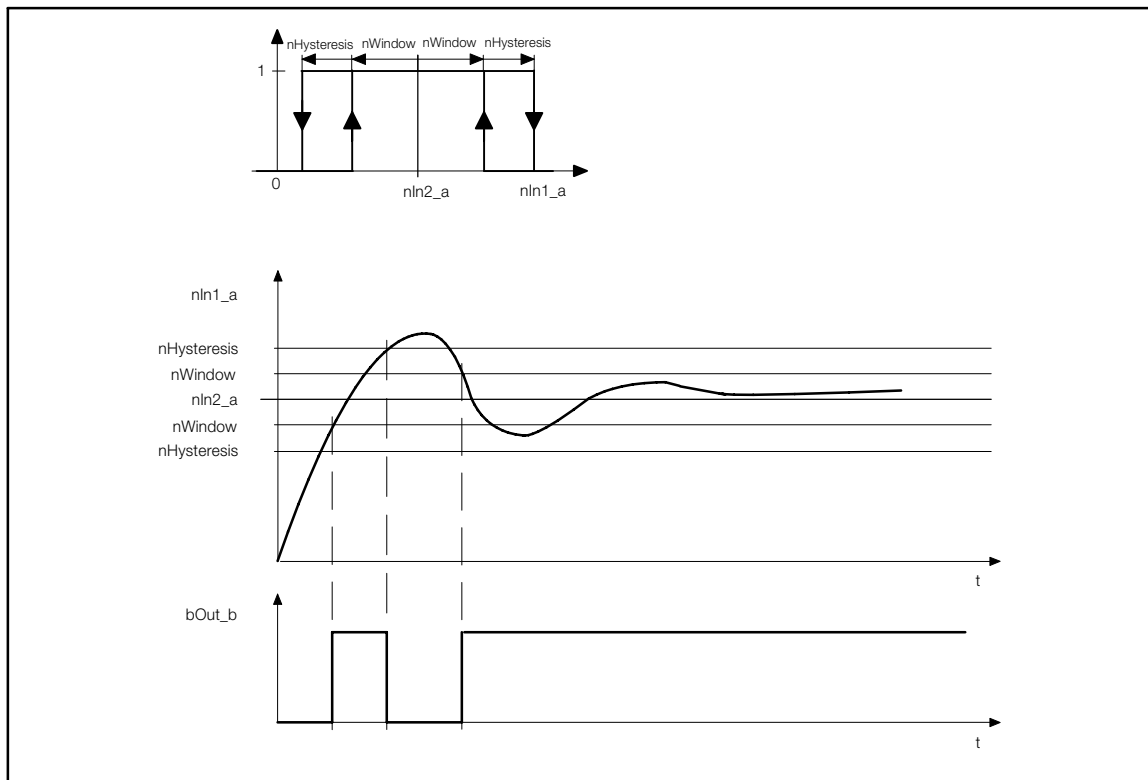

Fig. 2-12
- The exact function can be seen in the diagram. (□Fig. 2-12)